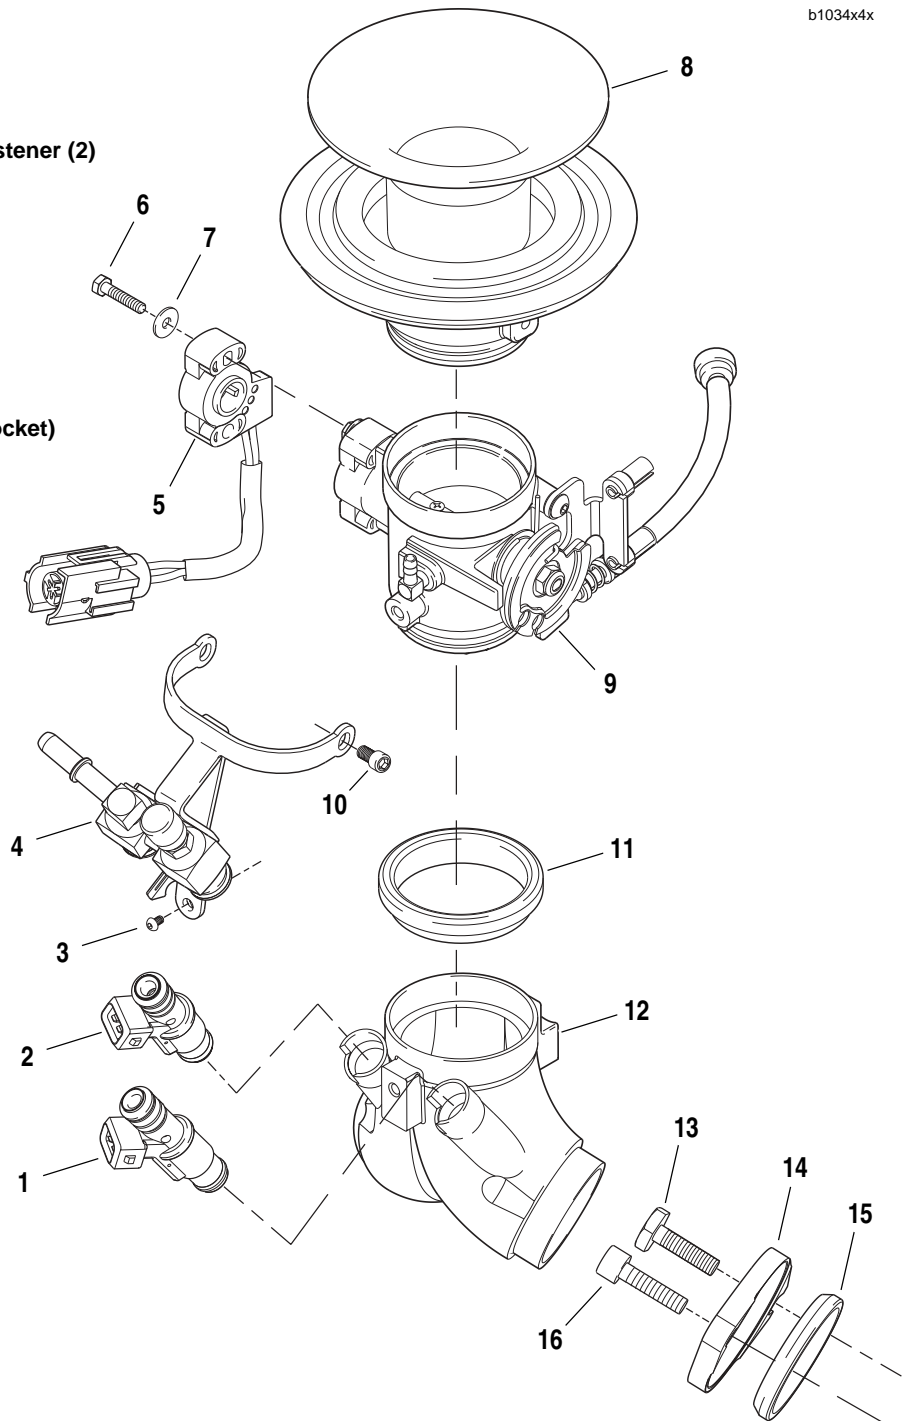

Figure 4-211. Throttle Body/Intake Manifold Assembly
See Figure 4-211. The throttle body consists of the following components:
6. See Figure 4-211. Remove intake flanges (14) from manifold. Remove and discard seals (15).
2. See Figure 4-211. Separate intake manifold (12) from throttle body (9). Discard ring seal (11).